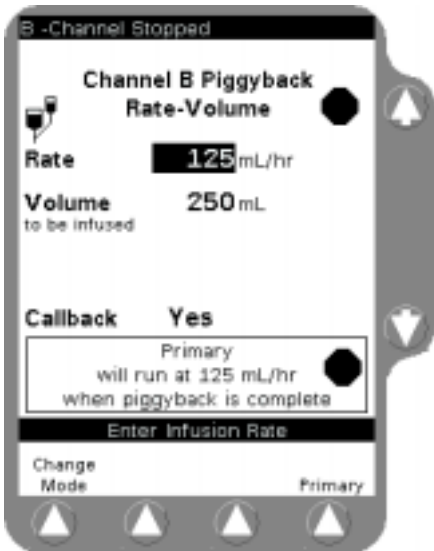

Figure 3-23 Starting Primary from Piggyback
- The primary infusion can be started by pressing the **Channel Select** key on the desired pump module, then the **Primary** soft key, then pressing the **START** key (Figure 3-23).